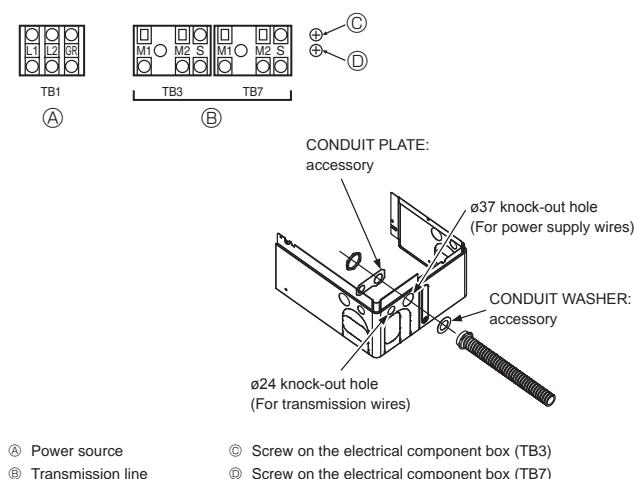

Fig. 6-1
6.2. Control box and connecting position of wiring (Fig. 6-1)
- Connect the wiring between the outdoor unit and the indoor unit to the transmission terminal block (TB3) of the outdoor unit. Connect the wiring between the outdoor unit and the centralized control system to the transmission terminal block (TB7) of the outdoor unit. When using shielded wiring, connect the ground of the shielded wiring to the shield terminal (S) of the terminal block (TB3) or (TB7). If the connection of the outdoor unit's transmission power supply connector has been changed from CN41 to CN42, connect the shield terminal (S) of the terminal block (TB7) to the screw (◎) using the included lead wire. * The shield (S) terminal of the transmission terminal block (TB3) is connected to the ground (Ⓐ) when the unit is shipped from the factory.